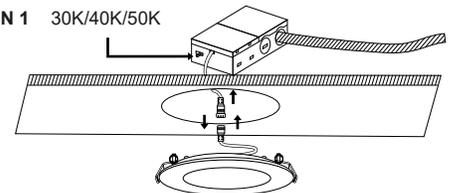

Fig. 4
4. Push the spring-loaded clips upwards and insert the fixture into the mounting hole. Release the clips and the fixture will grip flush with the ceiling / drywall. (Fig. 4)